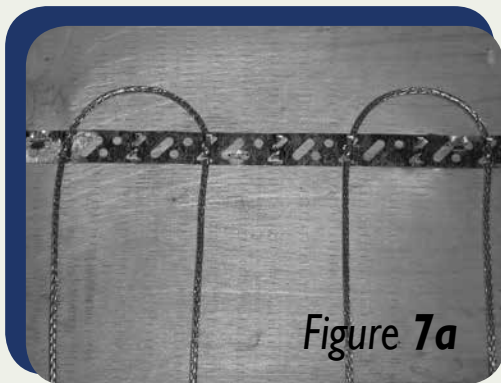

Figure 7a
- Place Heating Cable (section with clear outer covering and visible underlying copper braid) at an angle between the tabs and straighten to secure in place (**Fig. 8a & b**). Proceed with cable installation following the layout outlined on the floor earlier; space at appropriate intervals (at 3" or every second slot for Standard Heating Cable Spacing, [**Fig. 7a**] and every 3" - 1 1/2" - 3" - 1 1/2" alternating slot for Alternating Heating Cable Spacing [**Fig. 7b**]).